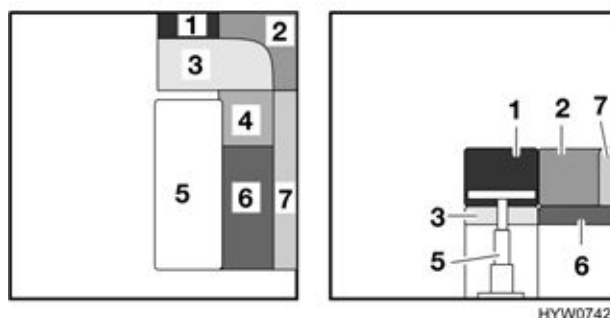
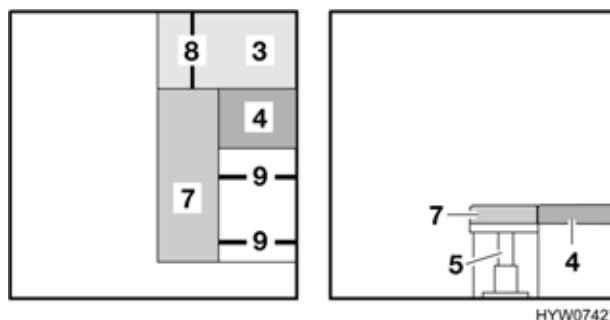

Fig. 98 Prior to conversion
Fig. 99 During conversion
- Convert the fixed table with telescopic table leg (Fig. 98,5) into a bed foundation (see section 6.5).
- Remove the back cushions (Fig. 98,1 and 2) and lay them aside.
- Remove the back cushion (Fig. 98,7) and lay it onto the table so that both retaining straps (Fig. 99,9) face the outside. The retaining strap (Fig. 99,8) must face the rear.
- Remove the seat cushion of the divan (Fig. 98,6) and lay it aside.
- Attach both retaining straps (Fig. 99,9) with the snap fasteners.
- Lift the seat cushion of the side bench (Fig. 99,3) on the inside and here too attach the retaining strap (Fig. 99,8) with the snap fastener.